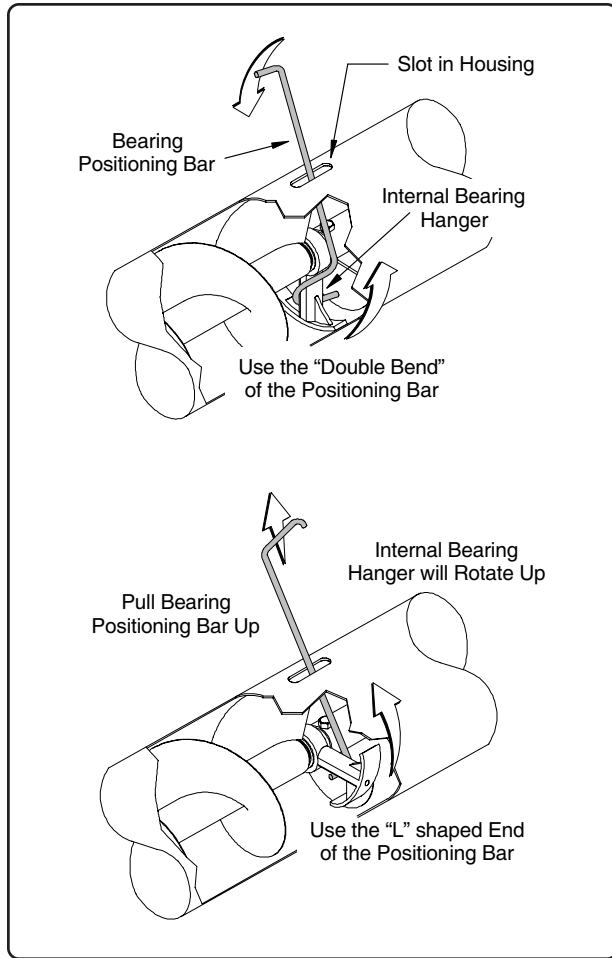

Fig. 44
3. A special "bearing positioning bar" has been provided to position the bearing hangers for assembly. Insert the end of the positioning bar with the "double bend" through the slot in the top of the housing and hook the bearing hanger stem. Rotate the stem upward as far as possible (See Fig. 44). Remove the positioning bar and insert the "L" shaped end into the slot. Hook the bearing hanger stem and pull upward to place the hanger in an upright position.